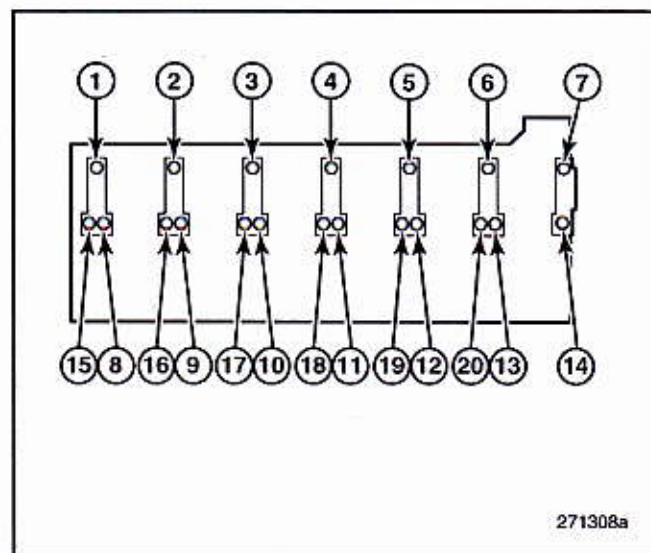

Figure 279 — Rocker Arm Shaft Screw Installation Sequence
5. Insert the long fasteners (Nos. 8–20 in Figure 279) through the shaft, camshaft bearing caps and into the cylinder head.